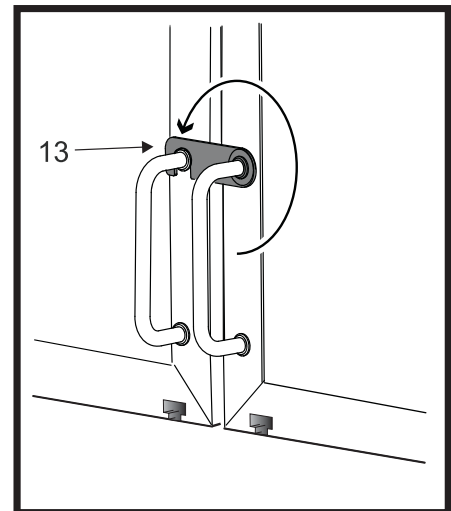

Figure 7: Side-to-side locking
- See Figure 7. Rotate the side-to-side locking latch (**13**) into place to fasten panels together.
Warning! *The side-to-side locking latch (13 in Figure 7) is not designed to support weight. All panels installed beside existing panels must be suspended as described under "Mounting the EvenLED" on page 8 and "Adding panels vertically" on page 9.*